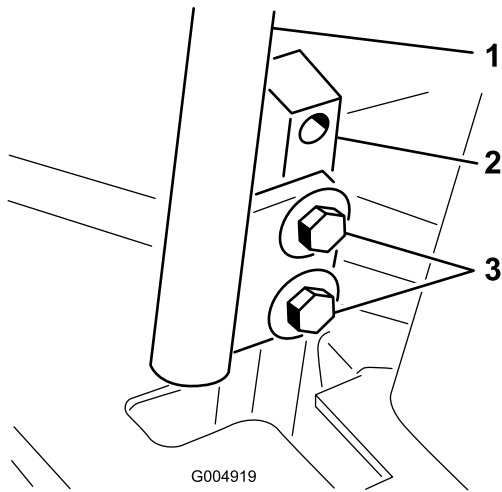

Figure 88
3. Loosen the bolts securing the control levers (Figure 88)